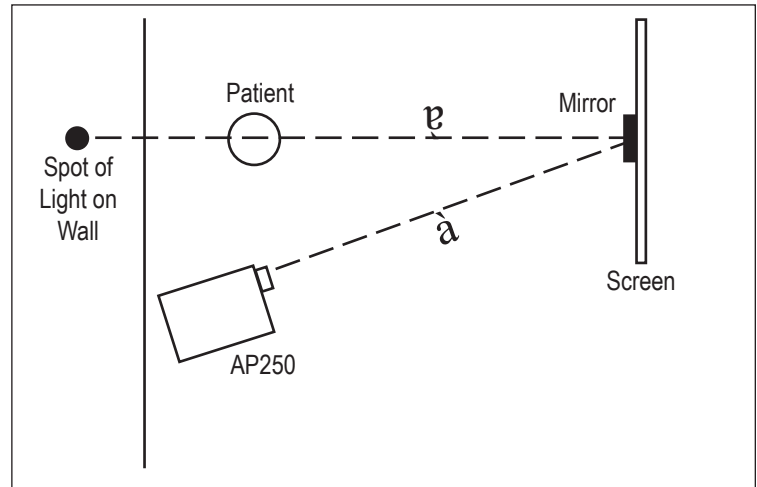

Figure 3 - Checking three-dimensional alignment.
2. Check the three-dimensional alignment of the system. To optimize the alignment, it may be necessary to angle the screen to direct light towards the patient's head. As a test, place a mirror on the screen. The light should project where the patient's head would be (see Figure 3).
7. Move the AP250's focusing controls (see page 5, # 11 & 12) until the 20/200 or .01 "Z" is in sharp focus and fills the bracket on the Letter Sizing Chart, as shown in Figure 3.